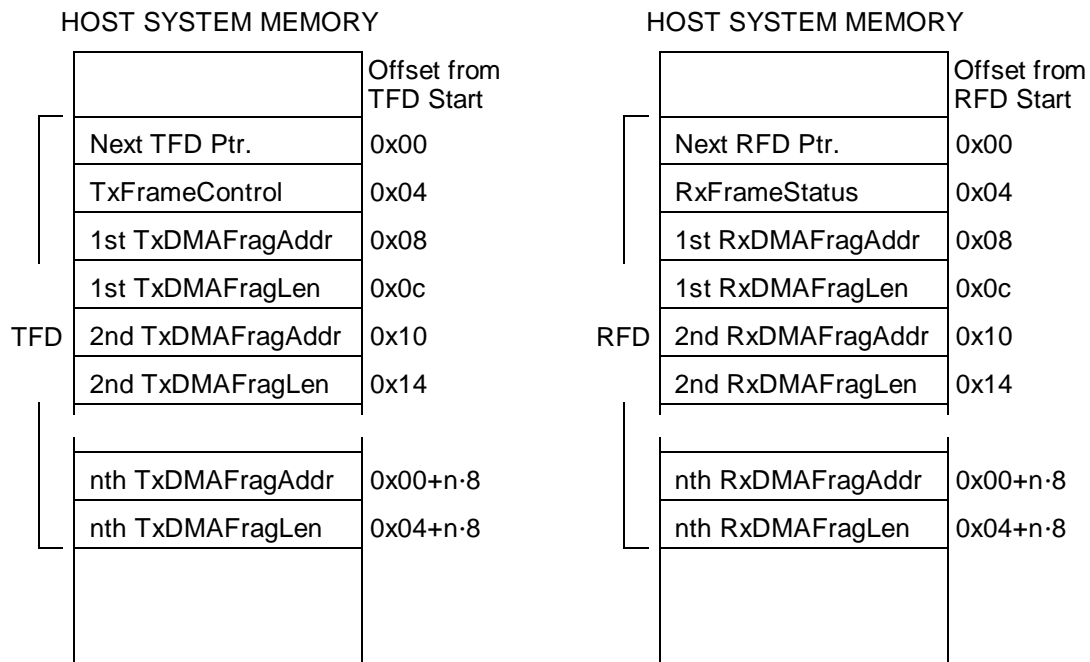

FIGURE 9: TFD and RFD DMA Data Structures
- | Figure 9 shows the two DMA data structures.